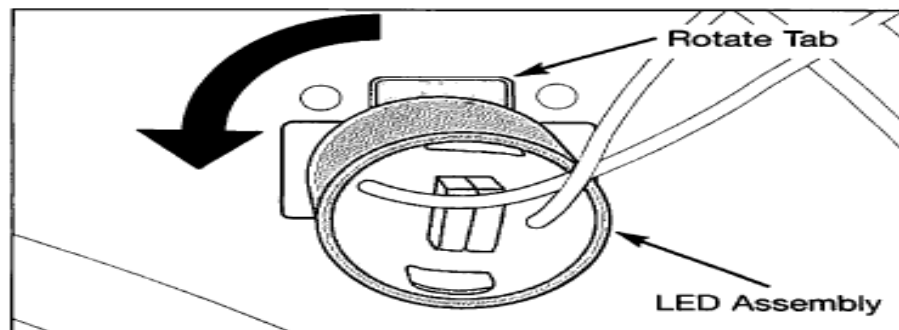

Figure 4-22.
4. Rotate interior light assembly until tab can be pushed through the inner panel, then pull assembly and wire leads through the compartment opening. (See Figure 4-22)